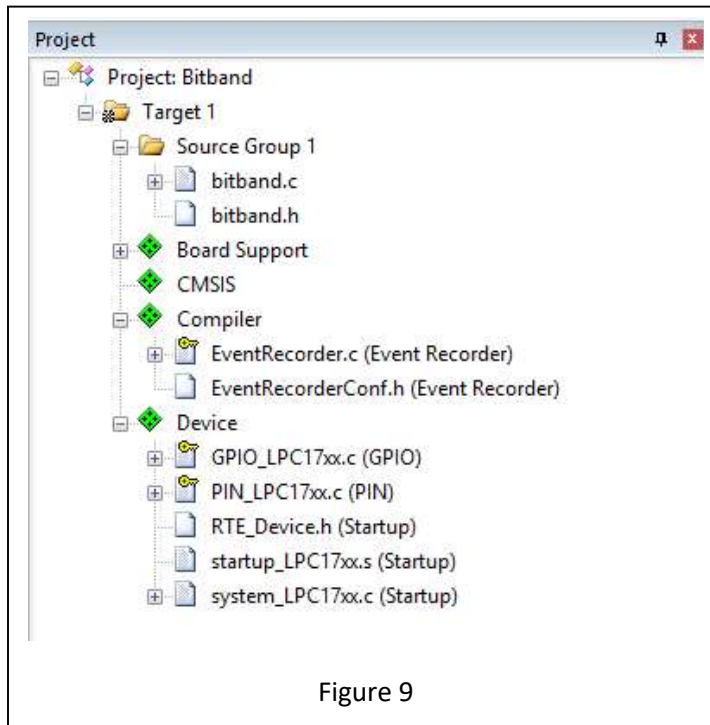

Figure 9
9. Now your Project Folders should look like the Figure 9.